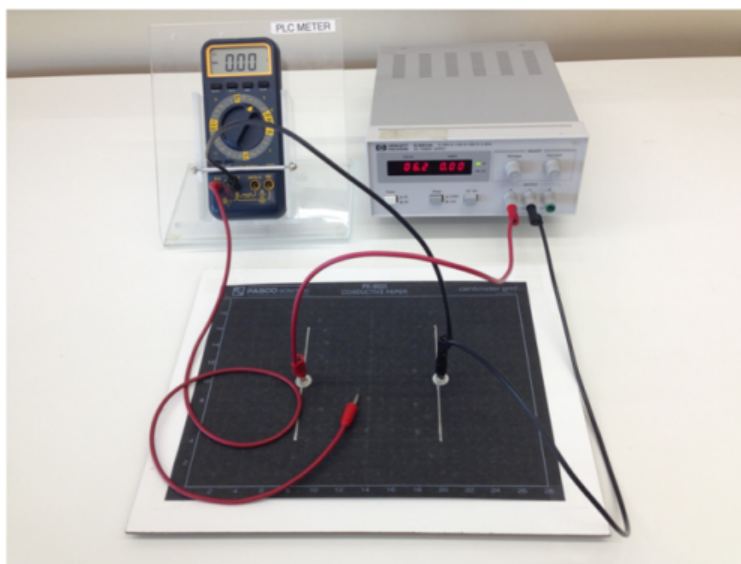

Figure 5: Apparatus
- 4 Using the multimeter (see Figure 5), measure the voltage difference between the two jacks on the graphite sheet. (It should read six volts.)